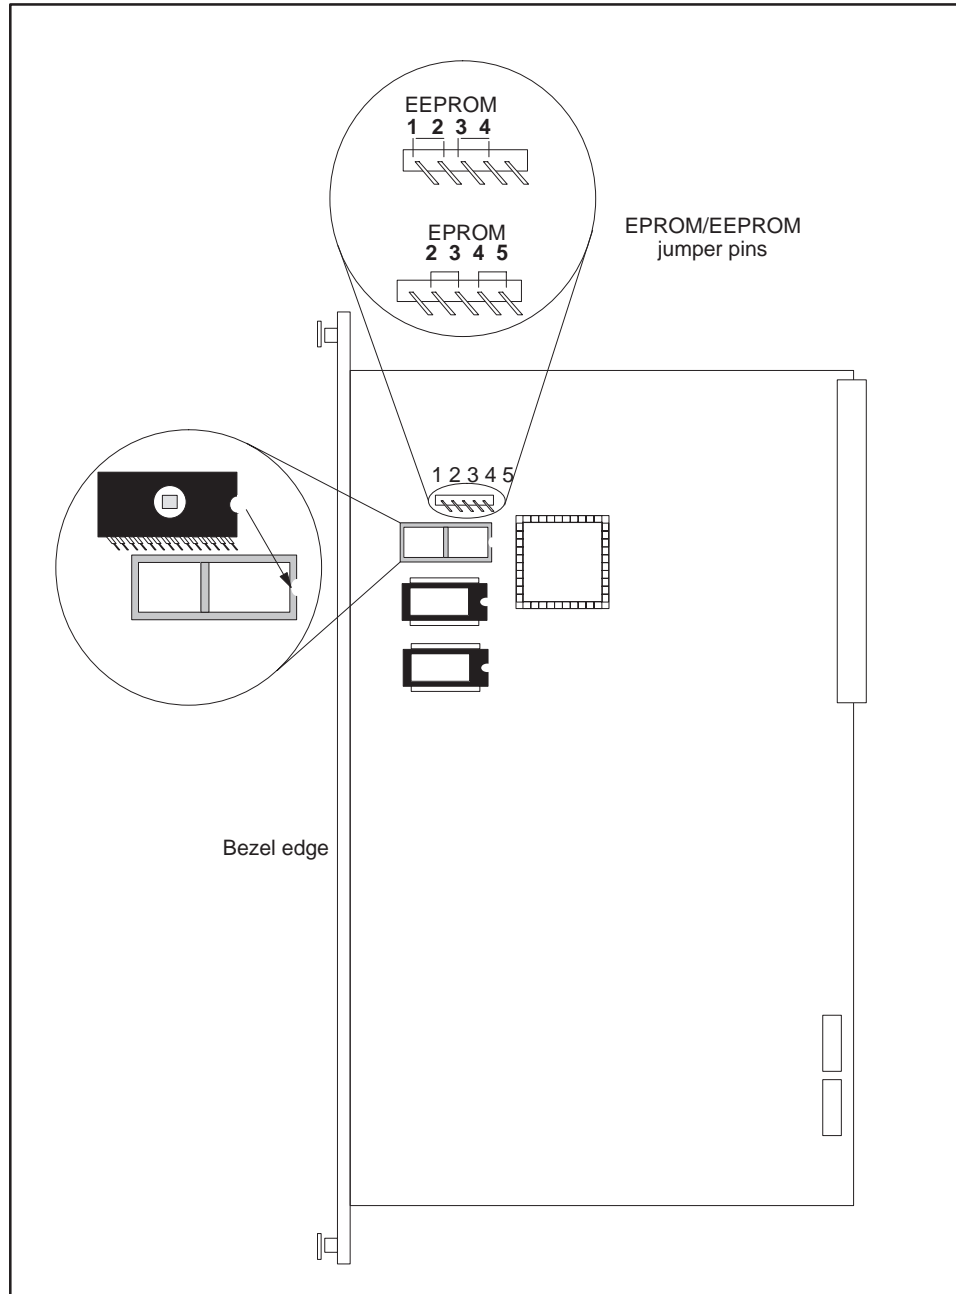

Figure 4-1 TI525 EPROM/EEPROM Socket and Jumper Pins
5. Refer to Figure 4-1. If you are installing an EPROM, place jumpers on pins 2–3 and 4–5. If you are installing an EEPROM, place jumpers on pins 1–2 and 3–4.